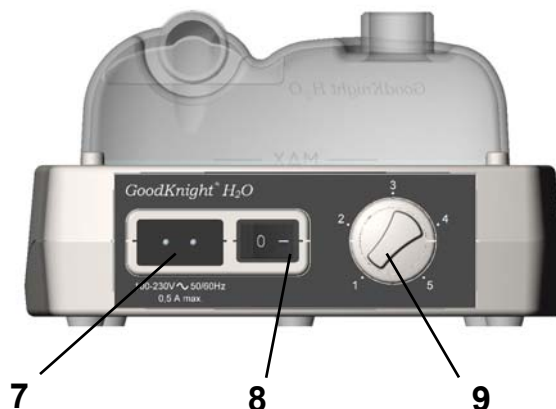

Figure 2 – Rear view
A green indicator that illuminates when the device is connected to an AC power outlet and the ON/OFF switch is in the “1” (on) position (Figure 2).
1. Connect the power cord to the *GoodKnight H₂O* heated humidifier supply connector (Figure 2, item 7 on page 3) and to an AC power outlet.
3. Start the *GoodKnight H₂O* heated humidifier by pressing the ON/OFF switch (Figure 2, item 8 on page 3). The green operating indicator illuminates.
4. Adjust the humidification using the heater power adjustment dial (Figure 2, item 9 on page 3). Humidification is highest when the dial is set to 5.
1. Turn the *GoodKnight H₂O* heated humidifier off by pressing the **ON/OFF** switch (Figure 2, item 8 on page 3).